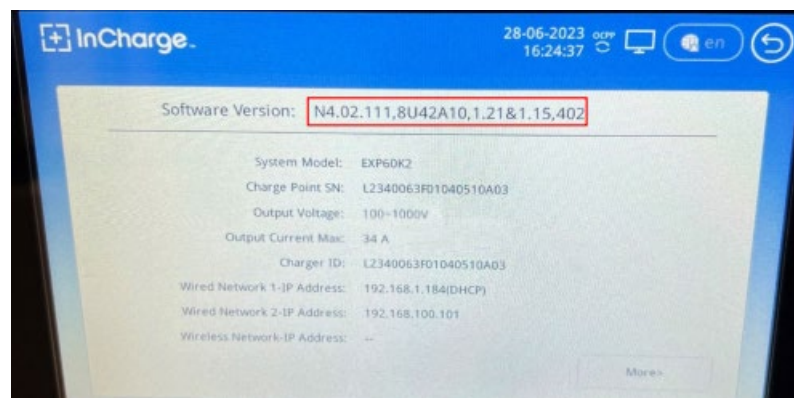

Figure 11.2 Software Version
- The following figure 11.2 software version is for reference only, the actual situation shall prevail.